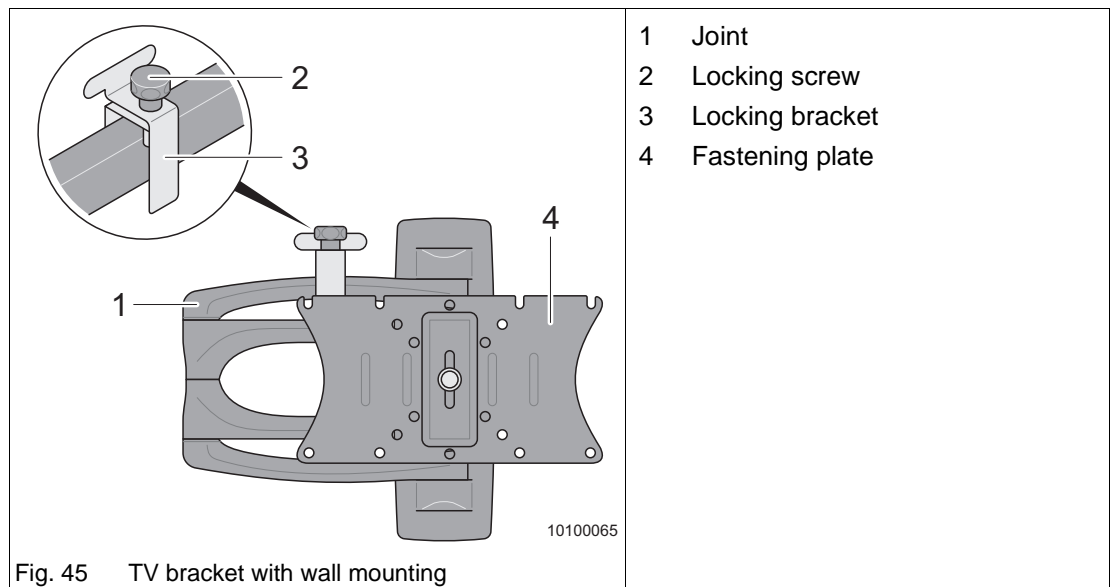

Fig. 45 TV bracket with wall mounting
- ➔ Loosen the locking screw (Fig. 45/2) and turn it out completely.
- ➔ Take the locking bracket (Fig. 45/3) off.
- ➔ Swivel the joint (Fig. 45/1) out of the basic setting.
- ➔ Attach the locking bracket (Fig. 45/3).
- ➔ Turn in the locking screw (Fig. 45/2) and fasten by hand.